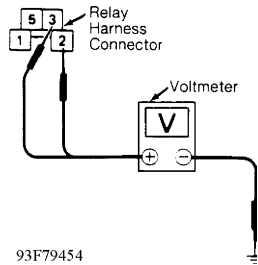

Fig. 3: ECM Relay Harness Connector Terminal ID
4) If battery voltage does not exist for a few seconds, disconnect ECM harness connector. Disconnect ECM relay. Check continuity between ECM harness connector terminals No. 38 (Orange/Blue wire) and No. 47 (Orange/Blue wire) and ECM relay harness connector terminal No. 5 (Orange/Blue wire). See Fig. 3. Continuity should exist. If continuity exists, go to next step. If continuity does not exist, repair open in Orange/Blue wire.
5) Measure voltage between ground and ECM relay harness connector terminals No. 1 (White wire) and No. 3 (White wire). See Fig. 3. Battery voltage should exist. If battery voltage exists, go to next step. If battery voltage does not exist, check harness and connectors.
6) Check continuity between ECM harness connector terminal No. 4 (White/Green wire) and ECM relay harness connector terminal No. 2 (White/Green wire). See Fig. 3. Continuity should exist. If continuity exists, check ECM relay. See RELAYS under RELAYS & SOLENOIDS. If relay is okay, go to next step. If continuity does not exist, repair harness or connectors.
3) Turn ignition off. Disconnect ECM harness connector. Disconnect ECM (ECCS) relay. Relay is located in relay box on right front inner fender panel. Check continuity between ECM harness connector terminals No. 38 (Black/White wire), No. 47 (Black/White wire) and No. 109 (Black/White wire) and ECM relay connector terminal No. 5 (Black/White wire). See Fig. 3. Continuity should exist. If continuity exists, go to next step. If continuity does not exist, check harness and connectors between ECM and ECM relay.
4) Measure voltage between ground and ECM relay harness connector terminals No. 1 (White wire) and No. 3 (White wire). See Fig. 3. Battery voltage should be present. If battery voltage is present, go to next step. If battery voltage is not present, check Brown fusible link. Check harness and connectors between ECM relay and battery.
6) Check continuity between ECM harness connector terminal No. 4 (Blue/Red wire) and ECM relay harness connector terminal No. 2 (Blue/Red wire). See Fig. 3. Continuity should exist. If continuity exists, go to next step. If continuity does not exist, repair open in harness between ECM harness connector and ECM relay harness connector.
wire) and No. 109 (Black/White wire) and ECM relay connector terminal No. 5 (Black/White wire). See Fig. 3. Continuity should exist. If continuity exists, go to next step. If continuity does not exist, check harness and connectors between ECM and ECM relay.
4) Measure voltage between ground and ECM relay harness connector terminals No. 2 (White wire) and No. 3 (White wire). See Fig. 3. Battery voltage should be present. If battery voltage is present, go to next step. If battery voltage is not present, check Brown fusible link. Check harness and connectors between ECM relay and battery.
6) Check continuity between ECM harness connector terminal No. 4 (White/Red wire) and ECM relay harness connector terminal No. 1 (White/Red wire). See Fig. 3. Continuity should exist. If continuity exists, go to next step. If continuity does not exist, repair open in harness between ECM harness connector and ECM relay harness connector.
3) Turn ignition off. Disconnect ECM harness connector. Disconnect ECM (ECCS) relay. Relay is located in fusible link box next to battery. Check continuity between ECM harness connector terminals No. 38 (Red/Black wire), No. 47 (Red/Black wire) and No. 109 (Red/Black wire) and ECM relay connector terminal No. 5 (Red/Black wire). See Fig. 3. Continuity should exist. If continuity exists, go to next step. If continuity does not exist, check harness and connectors between ECM and ECM relay.
4) Measure voltage between ground and ECM relay harness connector terminals No. 1 (Red wire) and No. 3 (Red wire). See Fig. 3. Battery voltage should be present. If battery voltage is present, go to next step. If battery voltage is not present, check 25-amp fusible link. Check harness and connectors between ECM relay and battery.
6) Check continuity between ECM harness connector terminal No. 4 (White/Green wire) and ECM relay harness connector terminal No. 2 (White/Green wire). See Fig. 3. Continuity should exist. If continuity exists, go to next step. If continuity does not exist, repair open in harness between ECM harness connector and ECM relay harness connector.
3) Turn ignition off. Disconnect ECM harness connector. Disconnect ECM (ECCS) relay. Relay is located in relay box behind battery. Check continuity between ECM harness connector terminals No. 38 (Black/White wire) and No. 47 (Black/White wire) and ECM relay connector terminal No. 3 (Black/White wire). See Fig. 3. Continuity should exist. If continuity exists, go to next step. If continuity does not exist, check harness and connectors between ECM and ECM relay.
4) Measure voltage between ground and ECM relay harness connector terminals No. 1 (Red wire) and No. 5 (Red wire). See Fig. 3. Battery voltage should be present. If battery voltage is present, go to next step. If battery voltage is not present, check Brown fusible link. Check harness and connectors between ECM relay and battery.
7) Check continuity between ECM harness connector terminal No. 4 (Red/Black wire) and ECM relay harness connector terminal No. 2 (Red/Black wire). See Fig. 3. Continuity should exist. If continuity exists, go to next step. If continuity does not exist, repair open in harness between ECM harness connector and ECM relay harness connector.